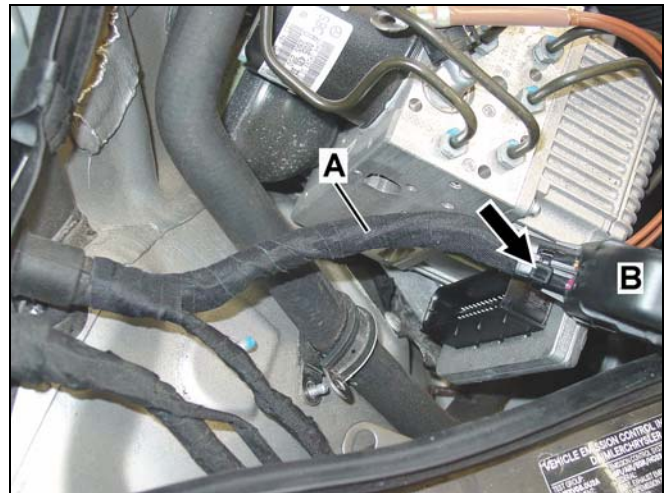

Figure 5
- If pulsation damper (B) was **not** installed: Install new standard suction hose (A) to suction line, secure with new hose clamps (arrows).
- If pulsation damper (B) **was** installed: Install new suction hose (A) with double pulsation damper to suction line, secure with new hose clamps (arrows).
- Remove cable tie (arrow, Figure 5) securing SBC wire harness (A) to SBC connector housing (B).